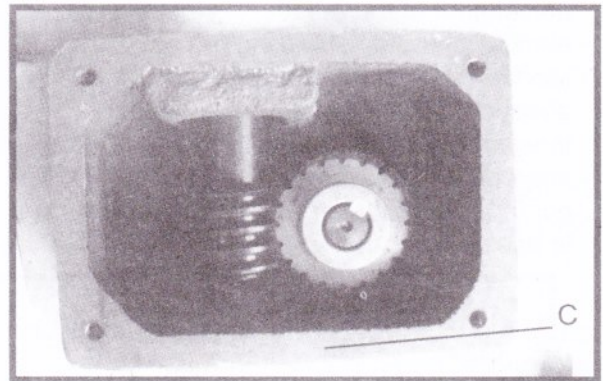

Fig. 21
4. Remove the old oil from inside the gear box and replace the oil using 140 weight gear oil, available from your local market. The new oil should just come to the edge (C) Fig. 21, of the gear box. Do not overflow. Replace the gasket, cover and four screws that were removed in **STEP 3**.